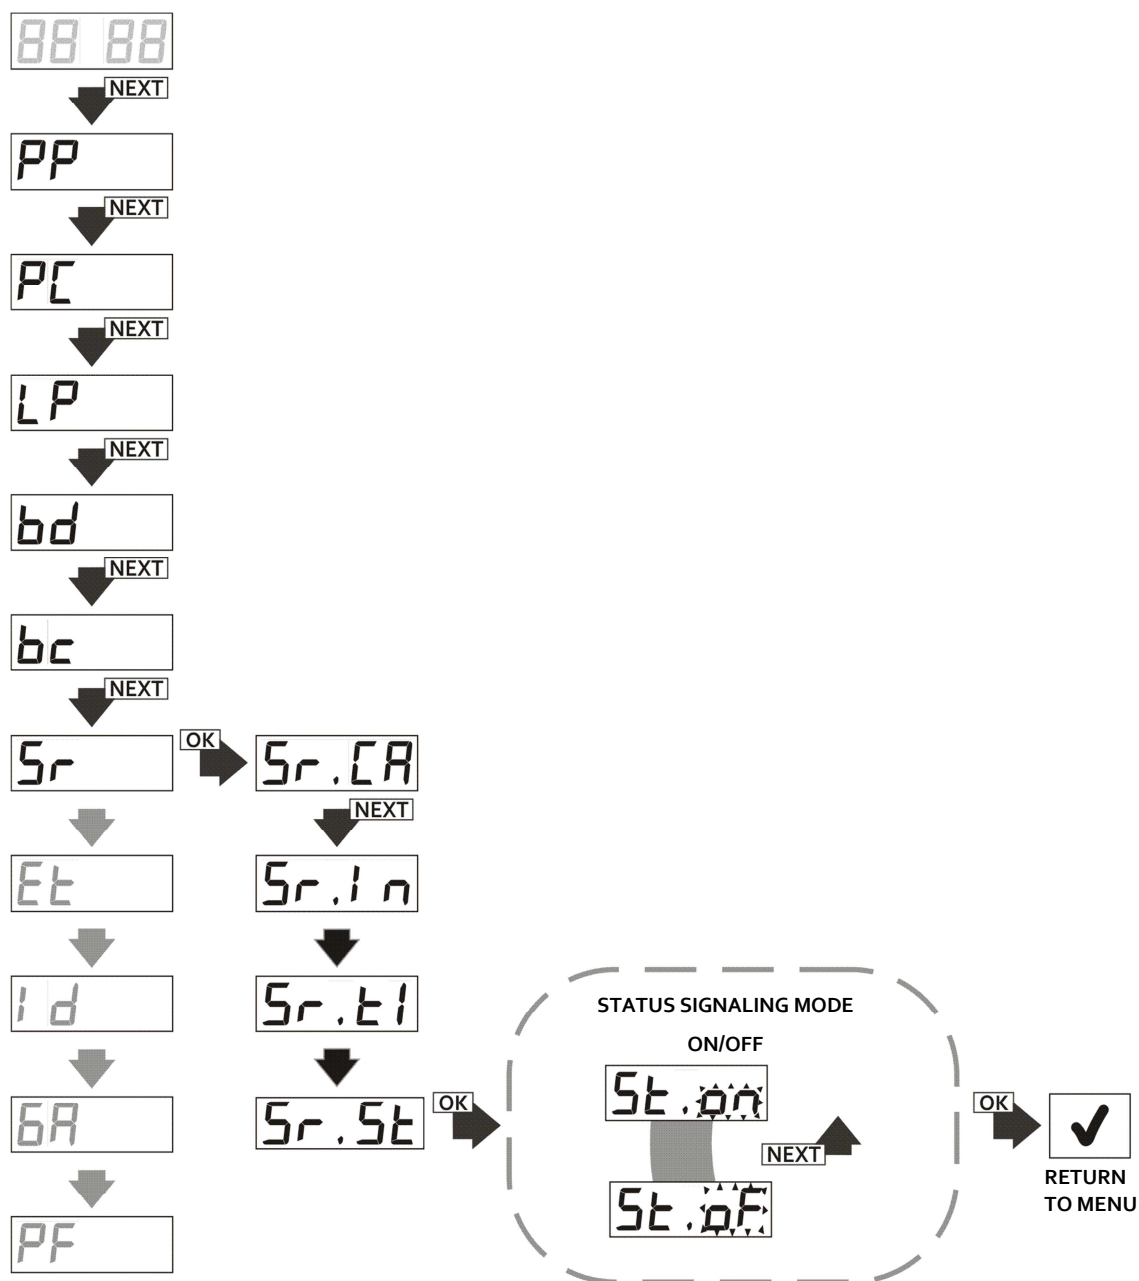

Fig. 26 Setting the receiver input to the status signaling mode, Sr.St.
- press the OK / ESC button, select the 'St' sub-option with the NEXT button (fig. 26);